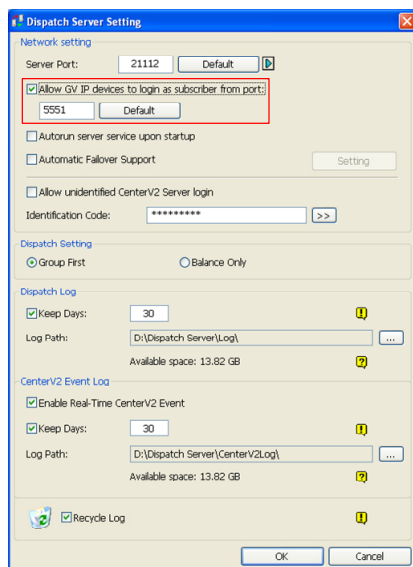

Figure 2-7
- C. **Port Number:** Match this port to the port value in step 2 (Figure 2-7) to connect to the Dispatch Server.
- **Server Port:** The port should match with the Dispatch Server Port of Center V2 (Figure 2-7). Or, keep the port setting as default.